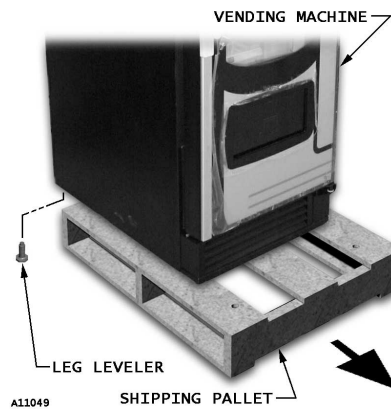

Figure 3.1. Remove the Shipping Pallet
1. Remove all four (4) leg levelers. Discard the washers. See **Figure 3.1**.
5. Tilt the vending machine back and remove the shipping pallet. Adjust all four (4) leg levelers so that machine is level and stable.